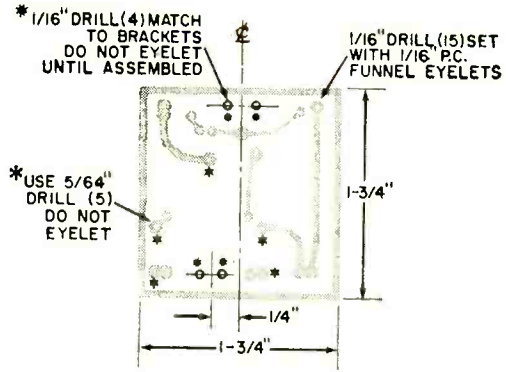

Fig. 4. This is foil side of printed circuit board. Numbers in parentheses indicate holes required.
Fig. 4. Pulses rise to maximum as soon as power is turned on (a), providing immediate train start. Crawl knob adjusts pulse width for varying train loads and desired crawl speeds. Throttle adjusts d.c. at emitter of Q8 (b) to run train at desired speeds. With throttle turned down (c), pulses appear prominently, then fade away as d.c. is turned up.
**The Pulse Circuits.** These circuits begin with  $Q_1$  and  $Q_2$  which comprise a free-running multivibrator. The collector of  $Q_2$  puts out a 60-cycle square wave which is fed through  $S_2$  and  $S_3$  to pulse generator  $Q_3$  for conversion to narrow pulses. These pulses are then amplified by  $Q_4$  and appear as shown in Fig. 4(a). *CRAWL ADJ* potentiometer  $R_7$  adjusts the pulse width to suit varying train loads and desired crawl speed. The *CRAWL ON-OFF* switch ( $S_2$ ) is used to disable the crawl feature, if desired. Switch  $S_3$  is ganged to the main throttle so that it cuts off the pulses when the
**Variable D.C. Circuit.** In the variable d.c. function generator circuit,  $R_{12}$  and  $R_{13}$  form a variable voltage divider, the output of which is fed to emitter followers  $Q_7$  and  $Q_8$ . The emitter followers provide a low impedance source for the voltage. The output voltage at the emitter of  $Q_8$  is variable from about 3 volts to 12 volts, as shown in Fig. 4(b), depending on the setting of  $R_{12}$ , the speed control potentiometer.
which provide a high current output. Their output waveform is as shown in Fig. 4(c).
The parts are mounted on a small (1¾-inch-square) printed circuit board laid out, drilled, and cut as shown in Fig. 4. Eyelets are used in the holes where shown to give the circuit board some extra ruggedness. The aluminum brackets are riveted to the circuit board